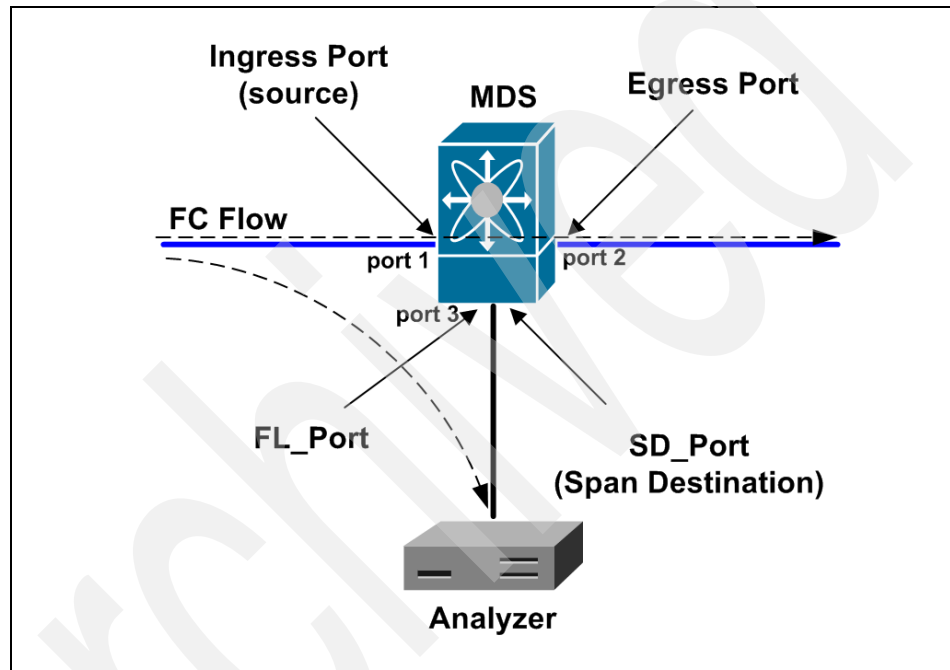

Figure 8-30 SD_Port for incoming traffic (ingress direction)
- Ingress source (rx): Traffic entering the switch fabric through this source is spanned or copied to the SD_Port, as shown in Figure 8-30.